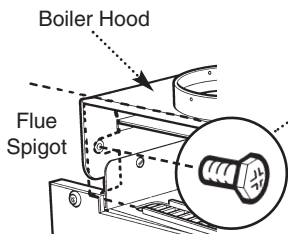

Fig. 31
8. Remove the two screws inside the flue spigot (Fig. 31).